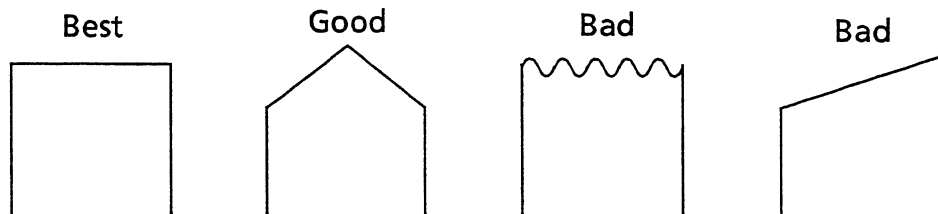

Figure 8-1 End of Paper
- ① Load paper with the print head in the home position.
- ② Cut the end of the paper at a right angle as shown in Figure 8-1, gently insert the paper straight into the paper inlet.
- ③ Insert the paper straight into the printer until it does not go any further, then rotate the paper feed knob while inserting paper in the paper feed direction.
- ④ If the paper is not inserted straight it may weave back and forth as it is being fed. Continue feeding the paper until it comes out straight.
- ⑤ When the paper is wound onto the roller a slight noise may be omitted. This is normal and is not a malfunction.